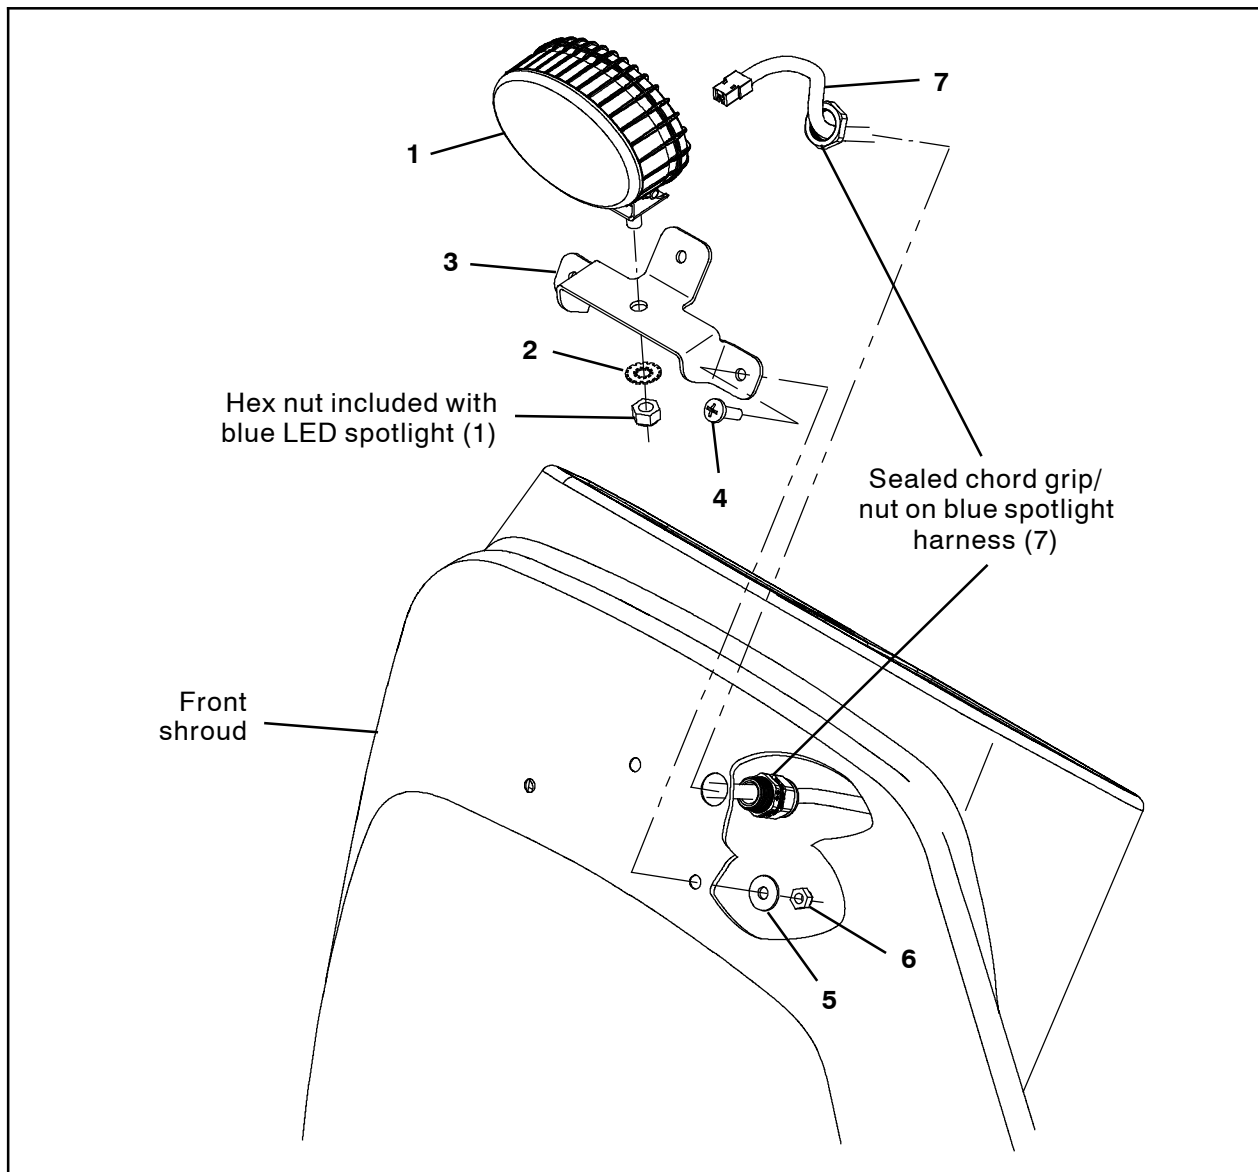

FIG. 6
11. Use three M8 pan screws (4), three flat washers (5), and three M8 hex nuts (6) to install the blue light front mounting bracket (3) onto the front shroud. (Fig. 6)
12. Remove the hex nut included with the blue LED spotlight (1) from the light. (Fig. 6)
13. Use the hex nut removed from the blue LED spotlight (1) in the previous step and a lock washer (2) to install the blue LED spotlight (1) onto the blue light front mounting bracket (3). (Fig. 6)
14. Remove the nut from the sealed chord grip on the blue spotlight harness (7). (Fig. 6)
15. Route the blue spotlight harness (7) connector to be connected to the blue LED spotlight (1) through the 0.886 in. (22.5 mm) in the front shroud and slide the removed nut back onto the harness. (Fig. 6)
16. Connect the blue spotlight harness (7) to the blue LED spotlight (1) installed on the front shroud. (Fig. 6)
17. Use the sealed chord grip/nut on the blue spotlight harness (7) to secure the harness to the front shroud. (Fig. 6)